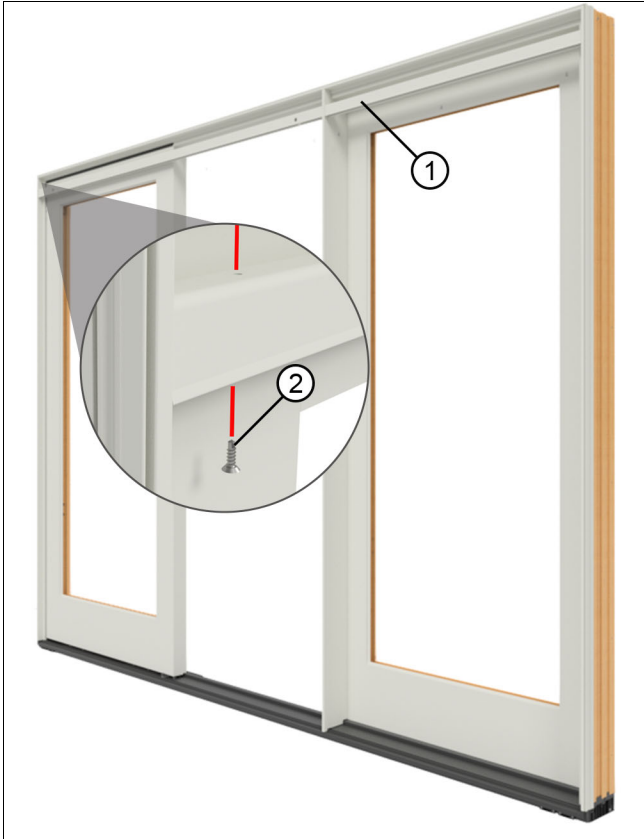

Figure 70 OXO shown.
1. On OXXO and OXO configurations, the screen track will come in two parts. OX/XO configurations have one screen track. Install with #7 x 3/8" self tapping screws through the pre-drilled holes in the track. See Figure 70.